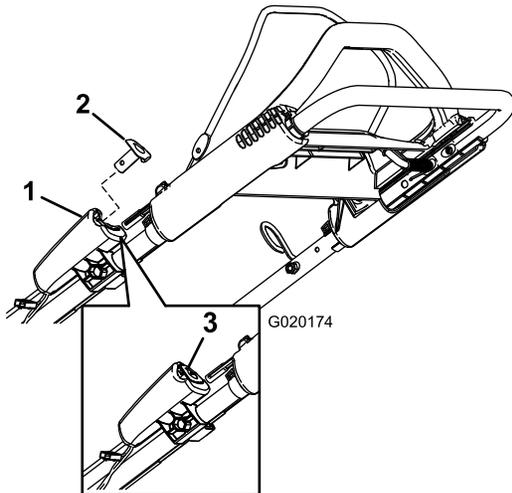
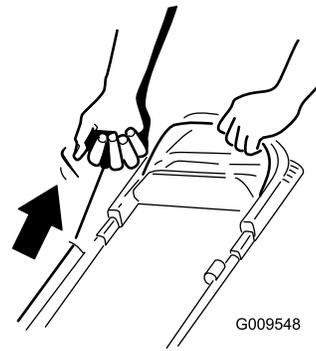

Figure 17
Figure 18
2. Insert the key into the ignition and turn it (electric-start model only; refer to Figure 17) or pull the recoil-start handle (Figure 18).
Note: When you pull the recoil-start handle, pull it lightly until you feel resistance, then pull it sharply (Figure 18). Allow the rope to return to the handle slowly.